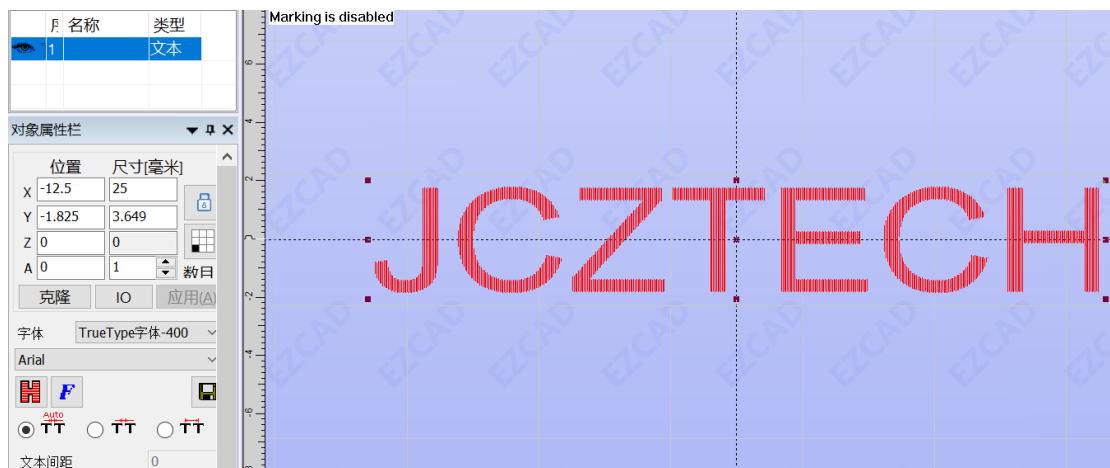

Figure 2.10 Drawing a projection file
- (2) Draw or import the projection target, as shown in Figure 2.10.